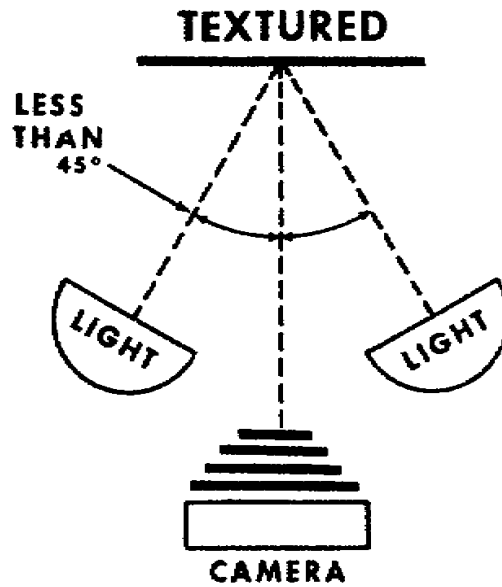

Figure 3-4. Lighting textured surfaces
d. As shown in Figure 3-4, the angle between the light and the camera should be reduced for original with textured surfaces. Textured surfaces diffuse the light so you need a more direct light to prevent shadows and to reflect more light to the lens.